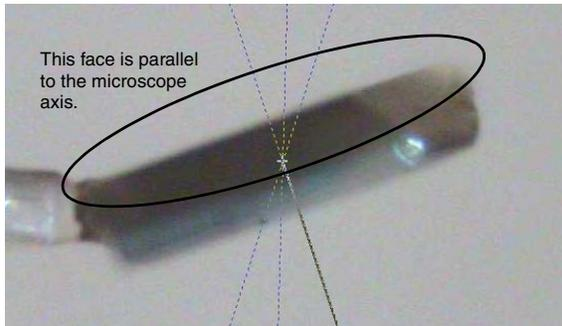

Figure B.6 – Face parallel to microscope axis
1. Use the dial control at the bottom of the screen (or use the mouse wheel) to rotate the crystal until one of the faces is parallel to the microscope axis as in Figure B.6. Note that, because **Show T-Tool** and **Show possible face normals** are selected, APEX2 suggests possible faces (whose indices are within the **Max. Miller Index** parameter) with dotted lines.